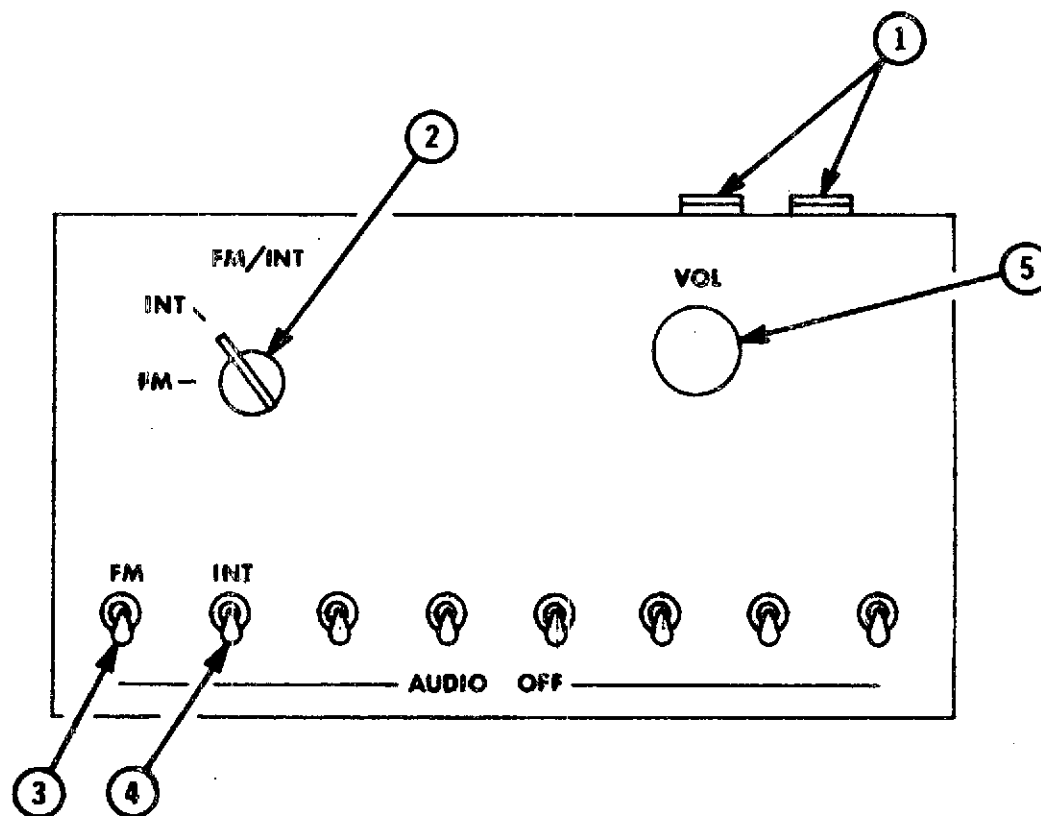

Figure 2-11. Aircraft Intercom System
2.12 AIRCRAFT INTERCOM SYSTEM (FIGURE 2-11)